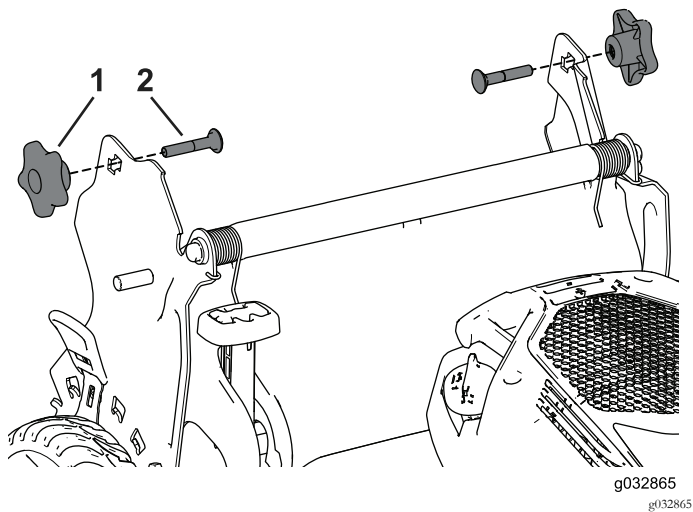

Figure 31
3. Insert the carriage bolt (with the bolt head toward the inside) through the handle bracket and the upper hole in the handle end. Ensure that the square edges of each carriage bolt fits into the upper or lower square hole in its related handle bracket (Figure 31).